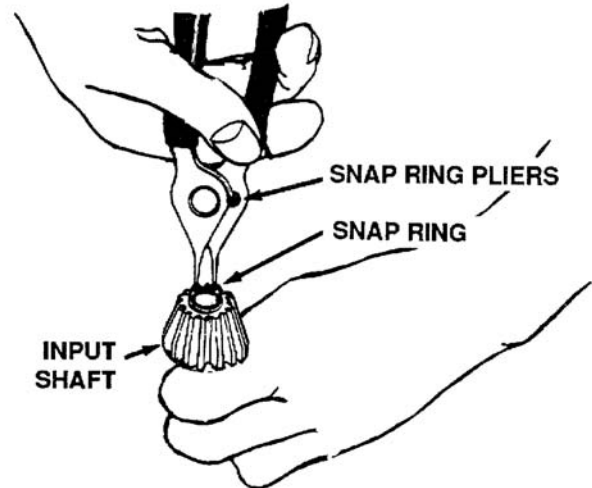

Figure 6-13. Removing Snap Ring
- Lift the input shaft out first and with a pair of snap ring pliers, remove the snap ring on the end of input shaft. See Figure 6-13.